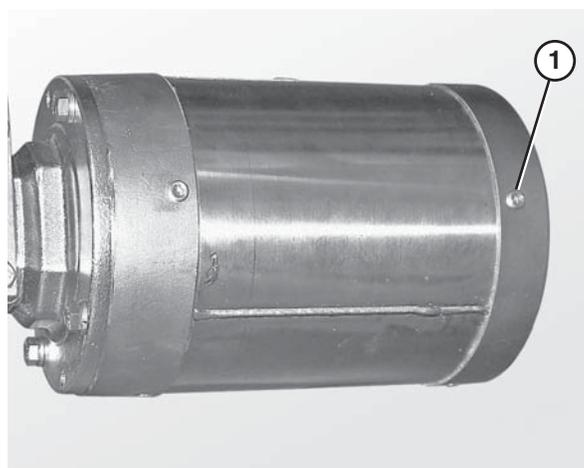

Figure 17
7. Remove the drainage plugs (**Figure 17, item 1**) on the bottom side of the motor.